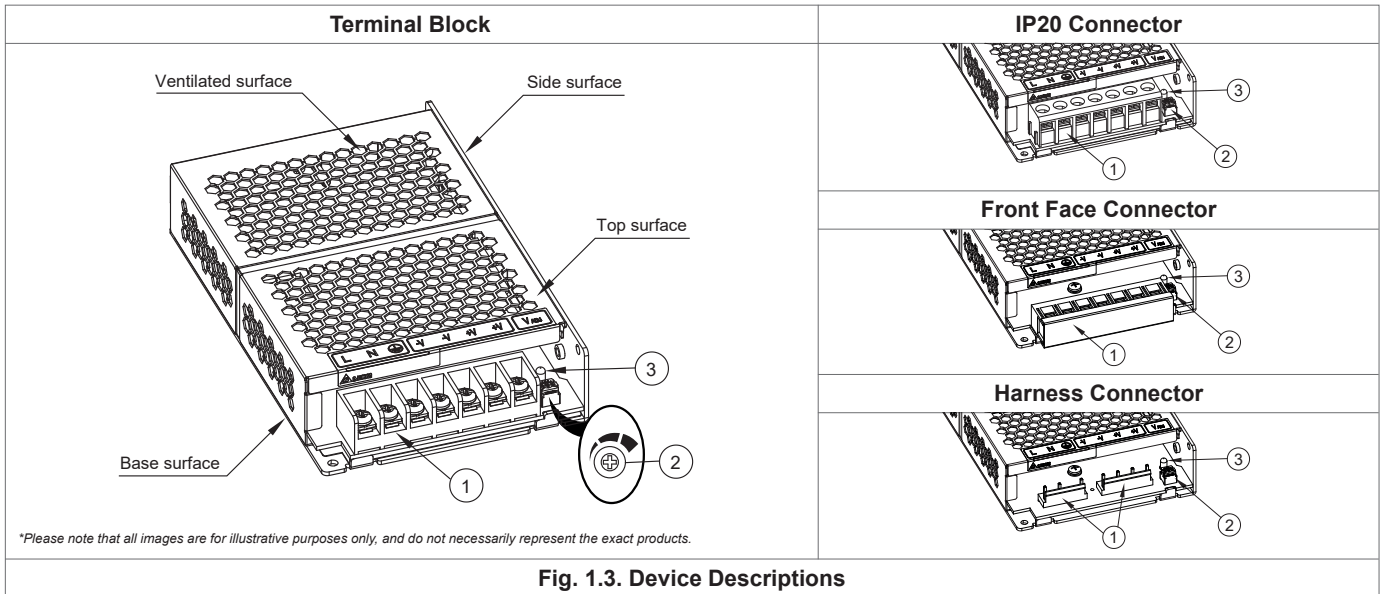

Fig. 1.3. Device Descriptions
► **PMH-100WCL□□, PMH-100WCM□□, PMH-150WCL□□** (Refer to Fig. 1.3)
- ① Input & Output connector
- ② DC voltage adjustment potentiometer
- ③ DC OK control LED (Green)